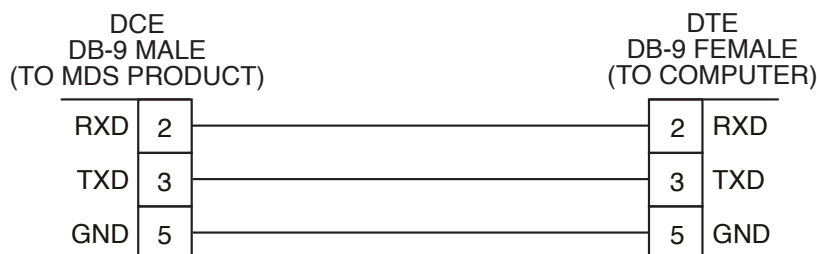

Figure 3-5. Serial Communications Cable (DB-9M to DB-9F)
1. Connect a serial communications cable between the PC and the unit's COM1 port. If necessary, a cable may be constructed for this purpose as shown in Figure 3-5.